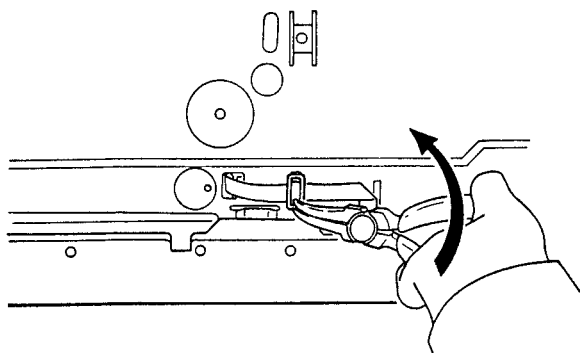

Fig. 2-2
3. Remove a screw fastening the lead cover and remove the lead cover. (Refer to Fig. 2-2)
4. Remove the lead holder fastening the wirings (ban card). (Refer to Fig. 2-2)